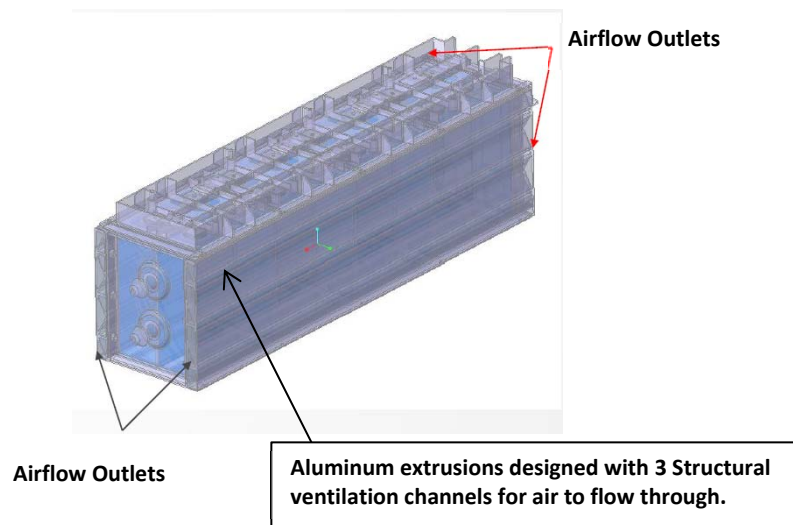

Figure 2 A Typical Powin Module is an 8S1P Design
- Figure 2 A Typical Powin Module is an 8S1P Design 6